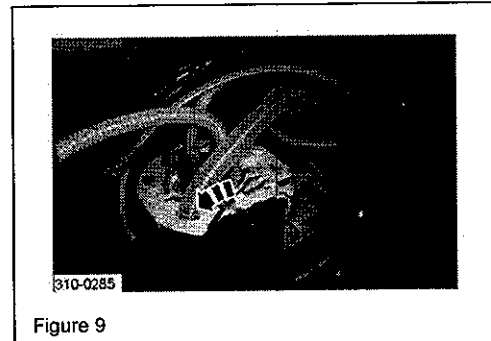

Figure 9
17. Insert the fuel transfer module transfer feed tube into the triangular-shaped hole in the swirl pot. (Figure 9)